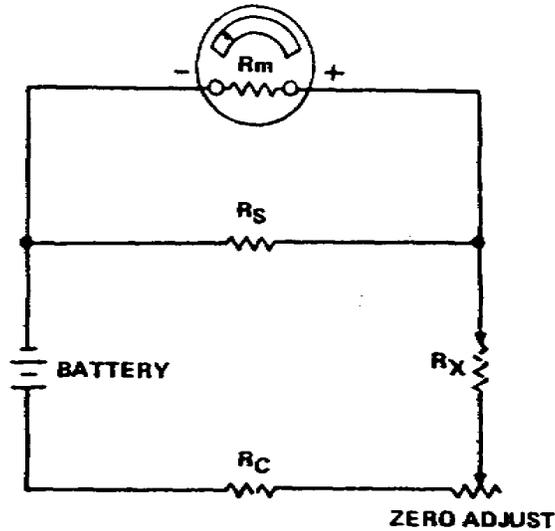
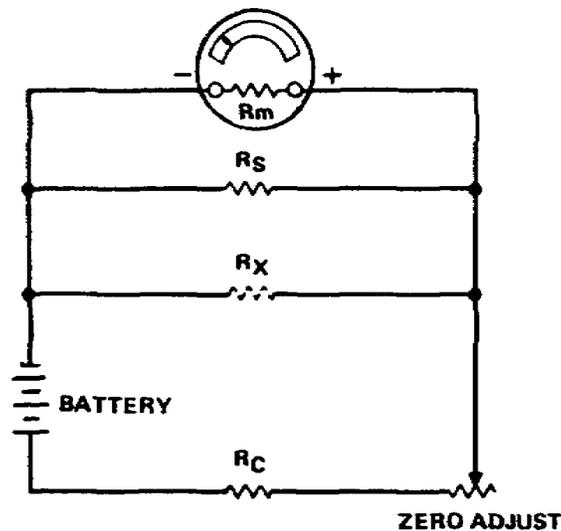

Figure 1-8. Typical ohmmeter circuit
Figure 1-10. A shunt ohmmeter
(3) If you double the meter resistance (increase to 4000 ohms), the error in the voltage reading diminishes to 30 percent (40 volts across  $R_1$ ). If you increase the ratio between the meter resistance and load resistance even more by increasing the meter resistance you obtain a point where the voltmeter error can be tolerated.
(4) For practical purposes, the voltmeter error can be tolerated when the voltmeter resistance is ten times as great as the resistance across which the voltage is measured.
c. Ohmmeter. The ohmmeter is a device that uses a current-actuated meter and a fixed source of voltage for measurement of resistance (refer to Figure 1-8). It is used for practical work where simplicity, portability, and ease of operation are more important than a high degree of precision. There are two types of ohmmeters, the series type and the shunt type. The series type has the resistance to be measured connected in series with the meter movement. The shunt type has the resistance to be measured connected in parallel with the meter movement.
(2) Since the ohmmeter is calibrated at mid-scale, the mid-scale portion represents the most accurate portion of the scale. However, the usable range extends, with reasonable accuracy, on the high end to 10 times the mid-scale indication, and on the low end to 1/10th of the mid-scale indication.
(3) To extend the usable high range of the series-type ohmmeter, shunt  $R_s$  (fig 1-8), can be removed from the circuit, and the value of the series-dropping resistor  $R_c$  increased 10 times. This permits a mid-scale reading with a resistance of 10 times  $R_x$ . The limitations which prevent a further increase in the usable high range of the ohmmeter are fixed voltage (battery) and the sensitivity (current necessary for full-scale deflection) of the meter mechanism. You can obtain a higher range by increasing the battery voltage or by using a more sensitive meter mechanism. The former method is practical, and is used in some commercial test equipment.
(4) You can extend the usable low range of the ohmmeter by installing meter shunt  $R_s$  and decreasing  $R_c$  until the current in the circuit and the internal resistance of the battery limit any further extension of the range. Excessive current can extend the low range by decreasing the battery voltage, but this method is not feasible. Instead, a shunt-type ohmmeter is used.
d. The shunt-type ohmmeter (fig 1-10), measures low and medium values of resistance. The shunt-type ohmmeter scale is calibrated in the reverse direction from the series type because full-scale deflection is obtained with test probes open.
(1) Mid-scale deflection occurs when the combination of the meter resistance and the shunt  $R_s$  is equal to  $R_x$ , the resistance to be measured.
and limiting resistor must be 5000 ohms if we are to obtain full-scale deflection. Full-scale deflection indicates zero resistance, and the meter scale is marked "0" ohms at 1 milliamperere point (fig 1-10). When a resistor (Rs) is placed between terminals T1 and T2, the total resistance of the circuit is increased, and a smaller current flows through the meter.